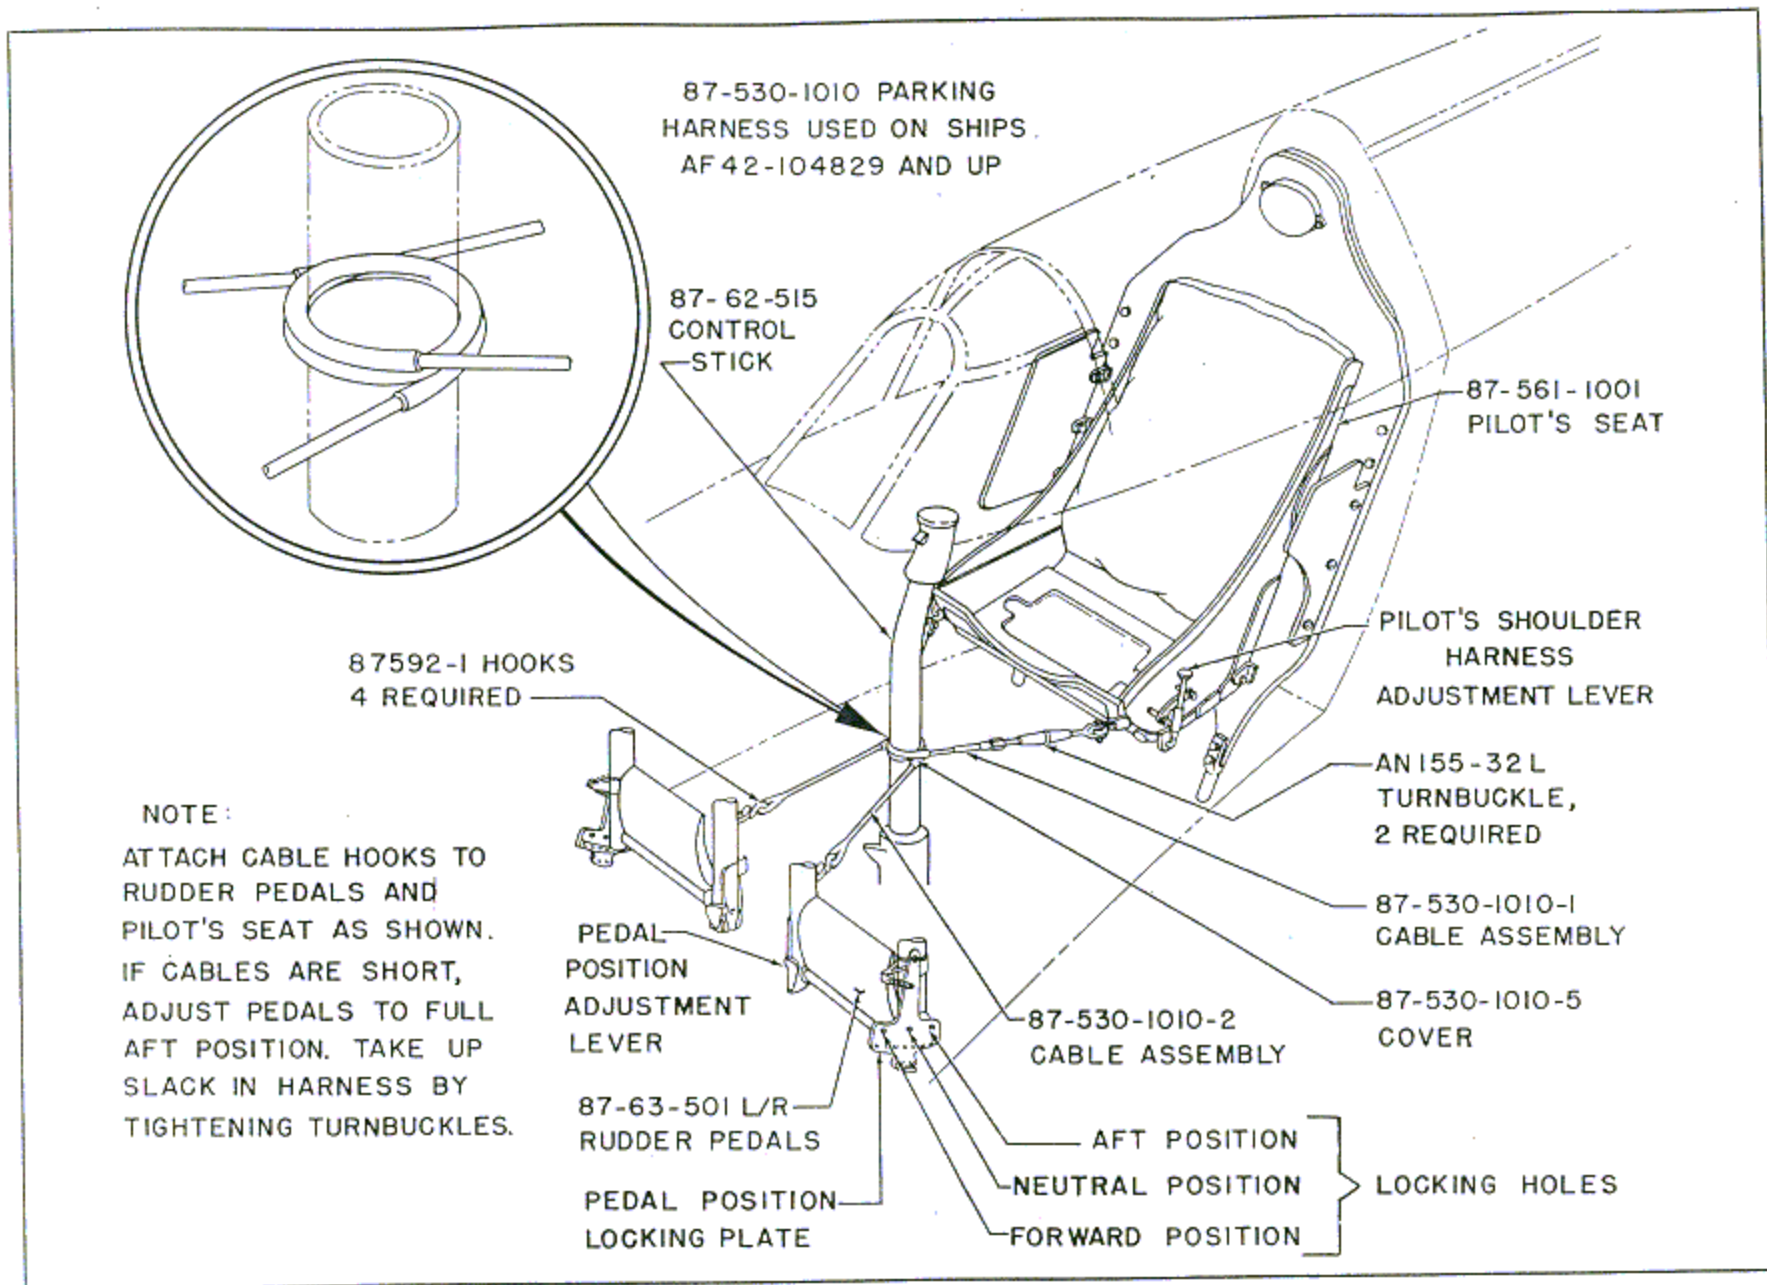

Figure 24—Attaching the Parking Harness
(1) PARKING BRAKES.—The parking brakes are set by pulling on the parking brake control button, located beneath the instrument panel on the left side, while holding both brake treadles depressed. Release the parking brakes by depressing the brake treadles.
(2) PARKING HARNESS.—The control surfaces are locked by rigging the parking harness around the control stick and attaching the hooks on the harness cables to the lugs on the rudder pedals and the pilot's seat. (See figure 24.)
Parking harness, part No. 87-64-570 is furnished with airplanes AF42-104429 through AF42-104828 which have the readily adjustable pilot's seat. This parking harness is *not* provided with turnbuckles for taking up slack in the cables. Attach the cables as shown in figure 24. If the hooks are painted, attach the green hooks to the pilot's seat and the red hooks to the rudder pedals. If the cables seem too short, adjust the rudder pedals to the full aft position and lower the pilot's seat. Attach the cables and raise the seat to remove the slack. In some rare cases, it may be necessary to wrap the harness around the stick below the electrical conduit on the control stick so that slack is obtained to engage the hooks.
Parking harness, part No. 87-530-1010 is furnished with airplanes AF42-104829 and subsequent, which are equipped with the pilot's seat that is not readily adjustable. This parking harness is provided with turnbuckles to take up cable slack. Attach the cables as shown in figure 24, and adjust turnbuckles to remove any slack.